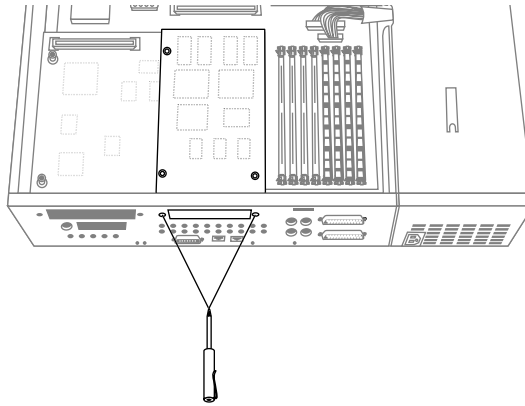

Figure 20 Inserting the screws from the rear of the workstation
2. Insert and tighten the two screws through the rear of the workstation, as shown in Figure 20. If the screw holes do not line up, the board may not be seated all the way, or one of the screws may be screwed down too tightly.